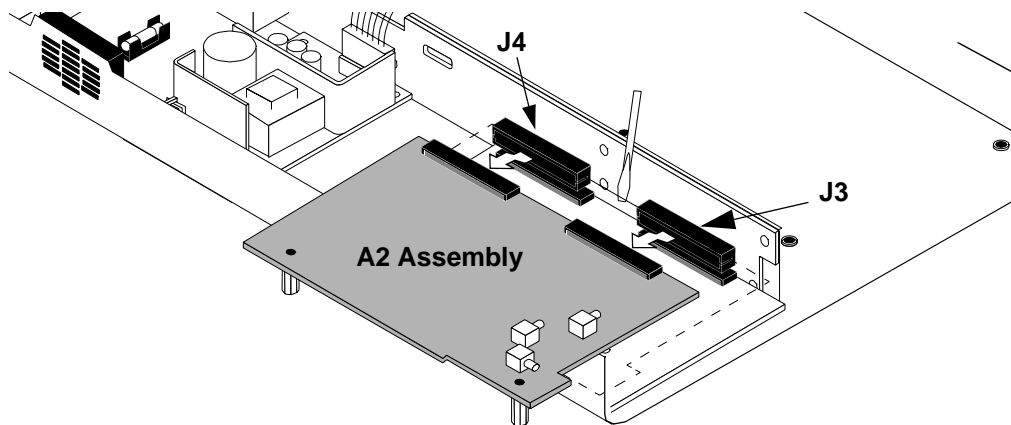

Figure 30 Removing the A2 Assembly
5. With a flat blade screwdriver wedged between the A2 assembly and the A3 motherboard assembly, carefully push and tilt the end of the A2 assembly over the edge of the deck to unplug it from the J3 and J4 connectors of the A3 assembly, see figure 30.